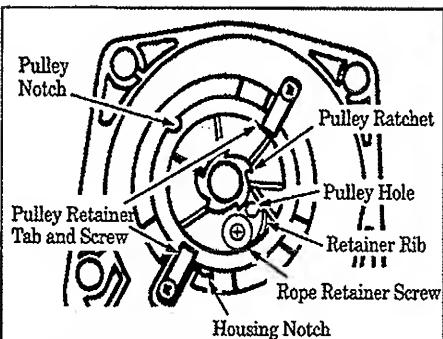

Figure 16
5. Remove rope retainer screw on the pulley (Figure 16) and remove the broken piece of rope, if any.
6. Grasp the pulley ratchet and wind the pulley clockwise until the pulley stops. Then, slowly unwind the pulley counterclockwise until the pulley notch is aligned with the pulley housing notch. Figure 16. Insert the hex wrench into the hole formed by the aligned notches. Figure 16.
- Guide rope inside the pulley, then through pulley hole. Figure 16.